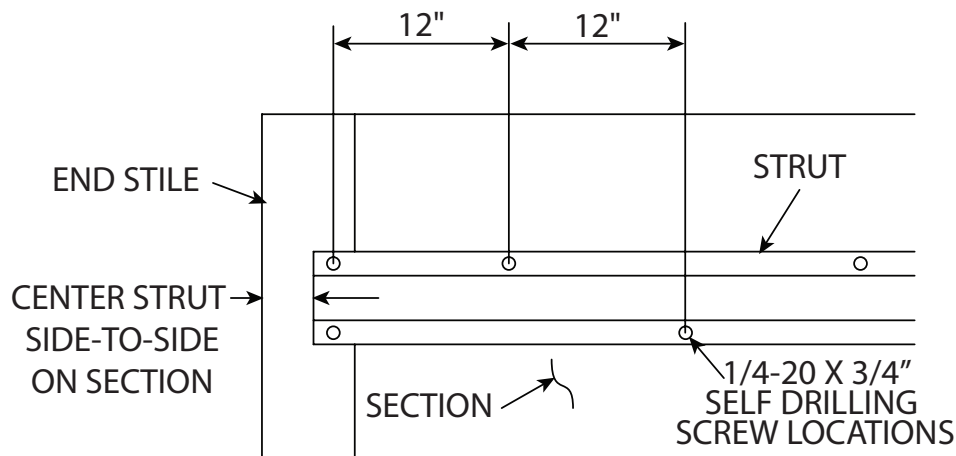

Figure 5
1. Install struts as shown in Figure 5 using self drilling screws. Use two(2) screws at each end stile. Fasten the strut to the section inside panel skin with the self drilling screws 12" apart, alternating from top to bottom of the strut as shown in Figure 5. Press strut firmly against section while driving screws.